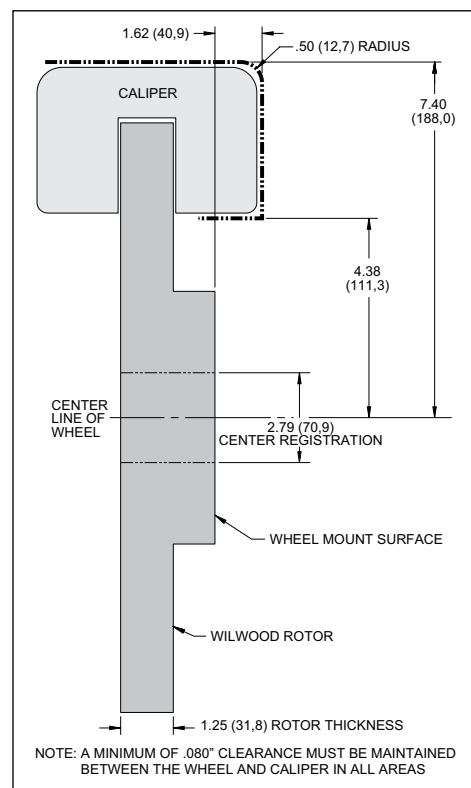

Figure 2. Wheel Clearance Diagram
- Review the wheel clearance diagram (Figure 2, page 3) to verify that there is adequate clearance with the wheels you will be using with the installation.
- The caliper piston sizes in this kit are best suited to vehicles using Original Equipment (OE) vacuum assist power brakes, or vehicles that have been converted to manual balance bar pedals with the appropriately sized twin master cylinders.
- Verify the wheel clearance utilizing Figure 2. This kit requires a wheel with a minimum inside barrel diameter of 14.80", with a minimum combined backdrop spacing between the wheel mounting face and the inside spokes of the wheel of 1.62". For wheels with less than 1.62" back drop, wheel spacers to provide additional clearance will be required. Please verify all other dimensions in Figure 2 before attempting installation.